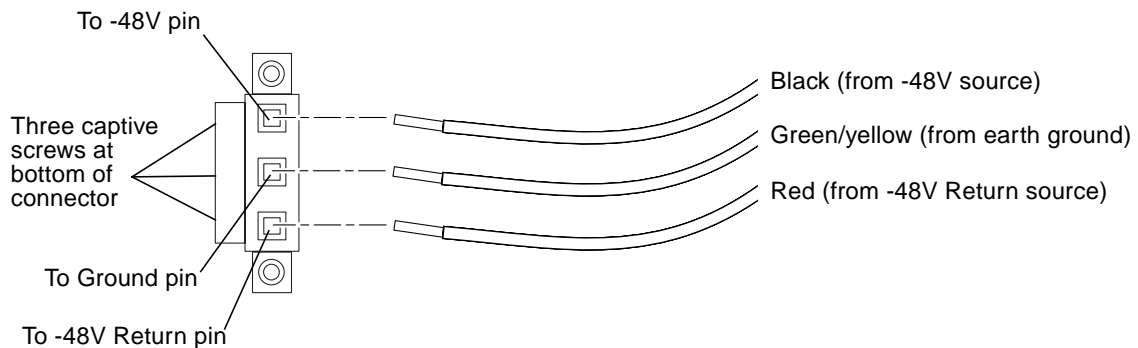

FIGURE 4 Assembling the DC Power Cable
5. Feed the exposed section of each wire into the appropriate hole in the DC plug connector (FIGURE 4).